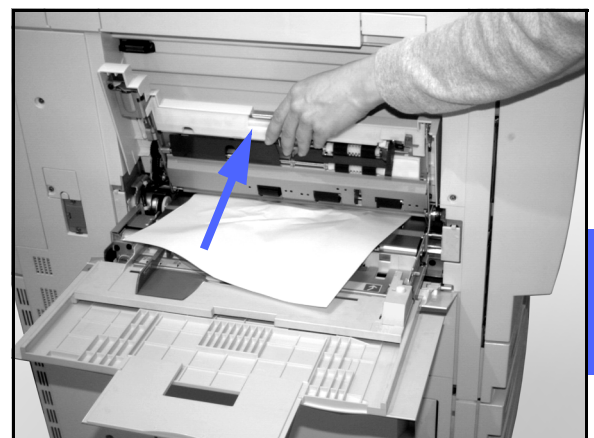

Figure 5: Opening the Paper Tray 5 Panel
- If a paper jam occurs near Paper Tray 5, lift the release lever on Paper Tray 5 and open the panel, as illustrated in Figure 5.